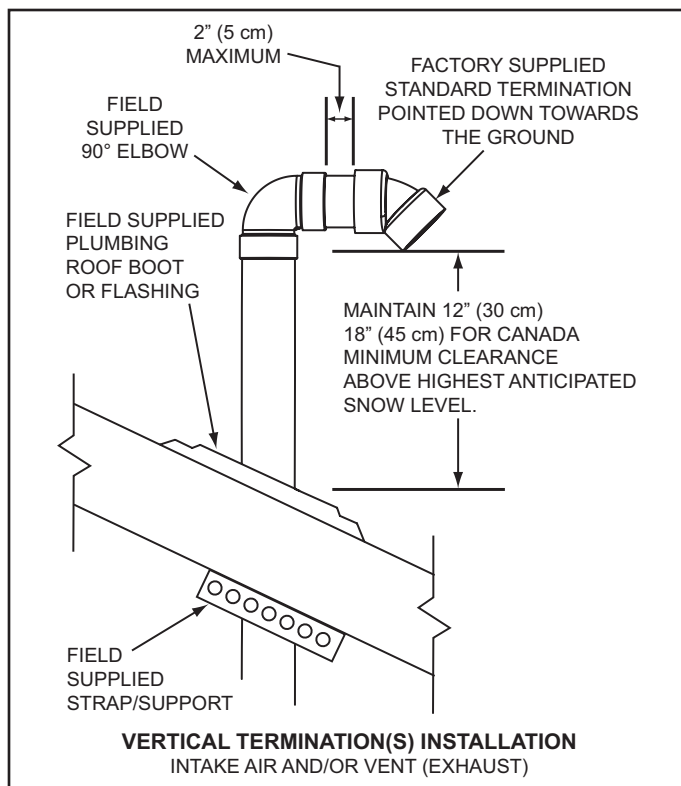
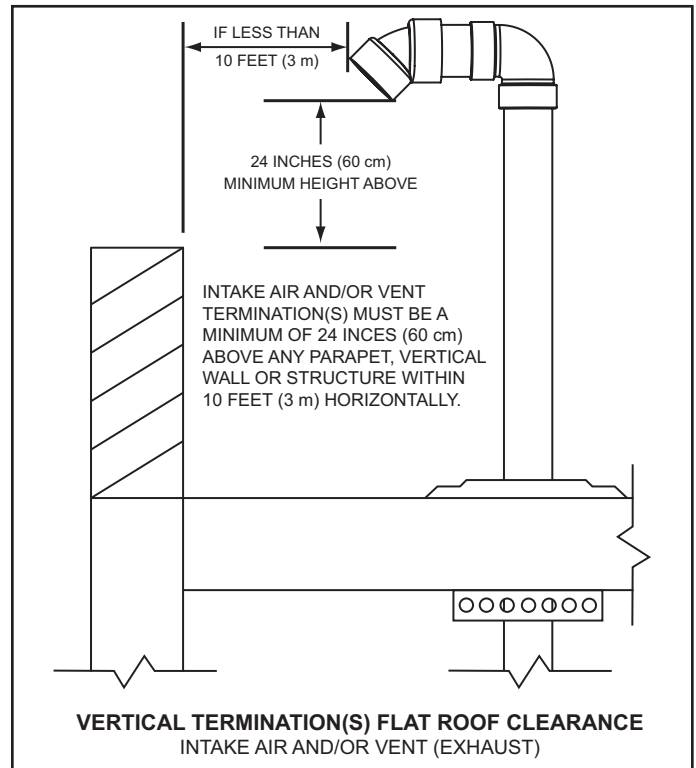
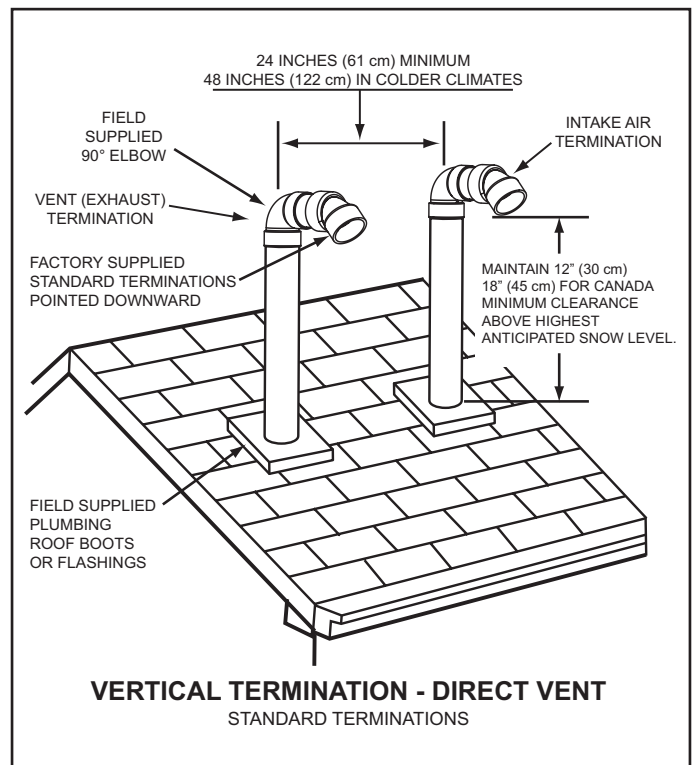

Figure 19
Figure 20
Figure 21
2. If installing only the vent (exhaust) piping in a Power Vent configuration vertically through the roof; ensure that all exterior vertical clearance requirements shown in Figure 19 and Figure 20 on page 25 are being maintained. These clearances and those cited by local and national codes must be maintained.
NOTE: On flat roof installations the vent termination must be a minimum of 24 inches (60 cm) above any parapet, vertical wall or structure within 10 feet (3 m) horizontally. See Figure 20 on page 25.
3. If installing both intake air and vent piping in a Direct Vent configuration vertically through the roof; ensure that all exterior vertical clearance requirements shown in Figure 19 and Figure 20 on page 25 are being maintained. These clearances and those cited by local and national codes must be maintained.
NOTE: On flat roof installations the intake air and the vent terminations must be a minimum of 24 inches (60 cm) above any parapet, vertical wall or structure within 10 feet (3 m) horizontally. See Figure 20 on page 25.
The vent termination must be oriented facing downward as shown in Figure 19 and Figure 20 on page 25.
The bottom edge of the vent termination must be a minimum of 12 inches (30 cm), 18 inches (45 cm) in Canada, above the average or expected snow level as shown in Figure 19 on page 25.
The intake air and vent pipes must penetrate the same side of the roof as shown in Figure 21 on page 25.
The intake air and vent terminations must be oriented facing downward and in the same direction as shown in Figure 21 on page 25.
The intake air and vent terminations must have a minimum separation of 24" (61 cm) measured on center line as shown in Figure 21 on page 25. In colder climates this separation should be increased to at least 48 inches (122 cm).
The bottom edge of the intake air and vent terminations must be a minimum of 12 inches (30 cm), 18 inches (45 cm) in Canada, above the average or expected snow level as shown in Figure 19 and Figure 21 on page 25.
The distance between the closest vent and intake air terminations must be a minimum of 24 inches (61 cm) as shown in Figure 21. In colder climates this separation should be increased to at least 48 inches (122 cm).
8. Suspend the pipe(s) through center of hole using field supplied metal strapping or equivalent support materials as shown in Figure 19.
9. Slide a roof boot or equivalent flashing over the pipe and secure roof boot or equivalent flashing to roof (see Figure 19) and seal around the flashing.
10. Install the factory supplied intake air and/or vent termination(s) using field supplied pipe and one field supplied 90° elbow as shown in Figure 19. The short section of pipe that connects
between the field supplied 90° elbow and the factory supplied termination must not be excessive in length. The exposed portion of this pipe shall be no more than 2 inches (5 cm), see Figure 19.